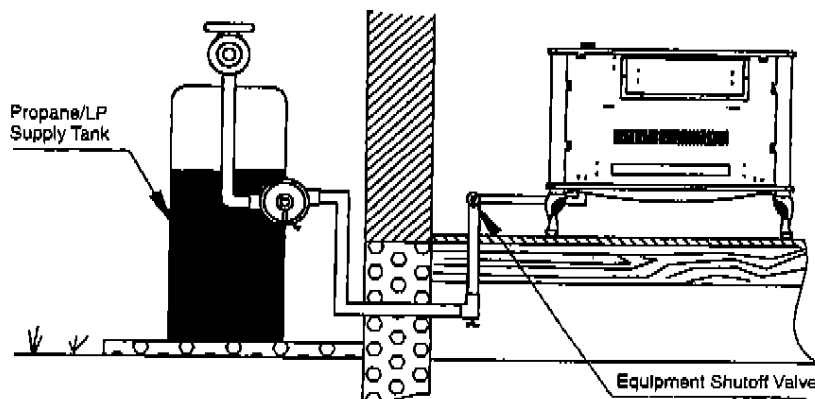
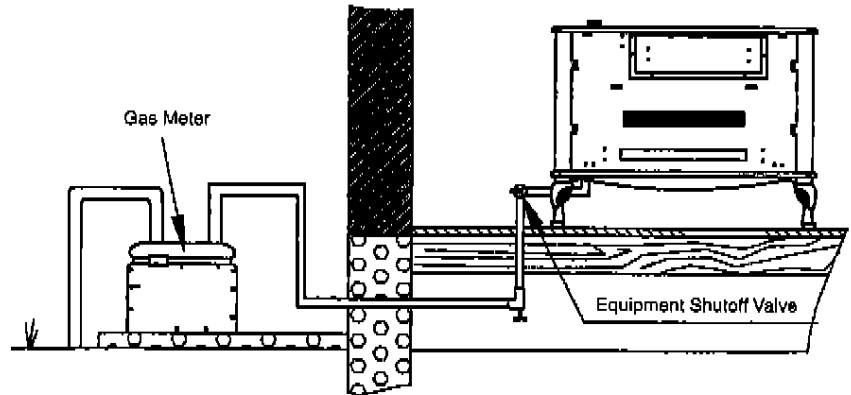

Figure 9.1. Checking Gas Joints
Figure 9.2. Checking Gas Joints
4. Check all joints from equipment shutoff valve to control valve (LP GAS see Figure 9.1; NATURAL GAS see Figure 9.2). Apply mixture of liquid soap and water to gas joints. Bubbles forming show a leak.
3. Check all joints from gas meter to equipment shutoff valve (see Figures 9.1 and 9.2). Apply mixture of liquid soap and water to gas joints. Bubbles forming show a leak.